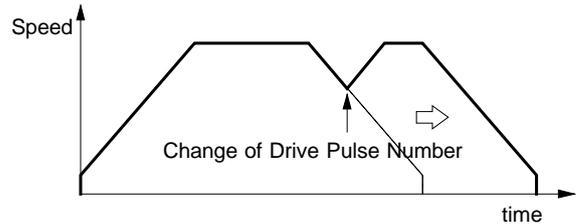
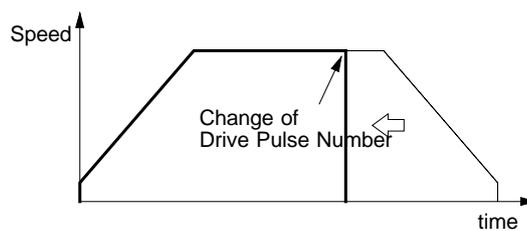

Fig. 2.1-7 Change of Drive Pulse Number in Deceleration
Fig. 2.1-8 Changing Drive Pulse Number Less than Output Pulse Number
In acceleration / deceleration driving, if the rest of output pulses become less than the pulses at acceleration, and the drive pulse number (TP) is changed during deceleration, the driving accelerates again (Fig. 2.1-7). And if the output pulse number of changed drive pulse number (TP) is less than the number of pulses already output, the driving stops immediately (Fig. 2.1-8).